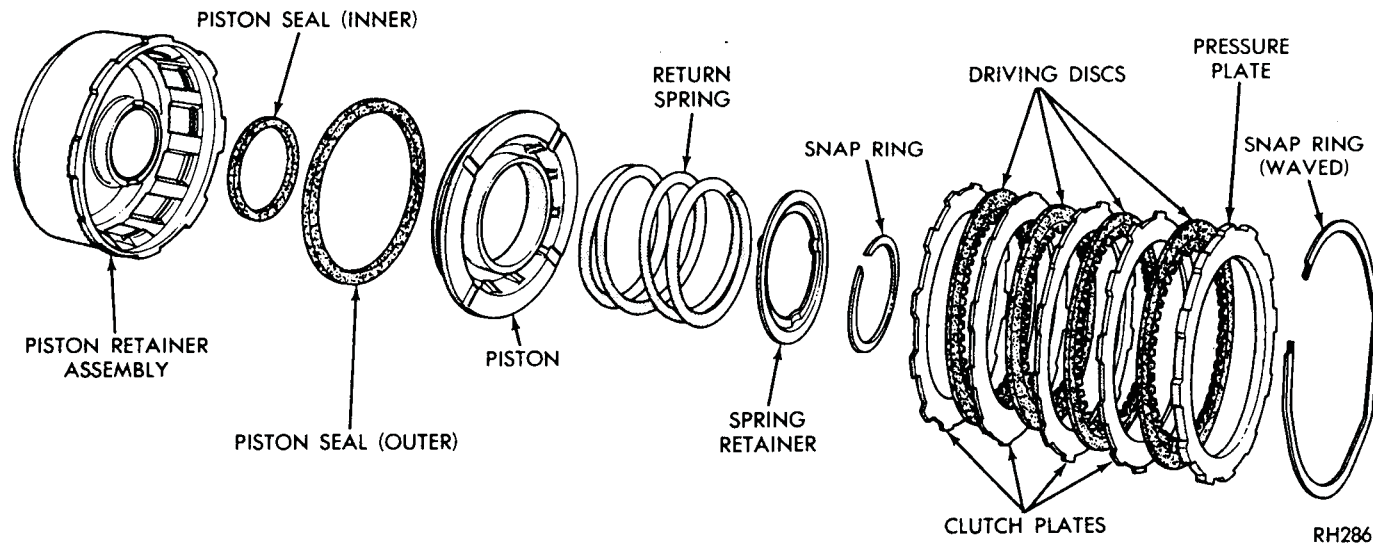
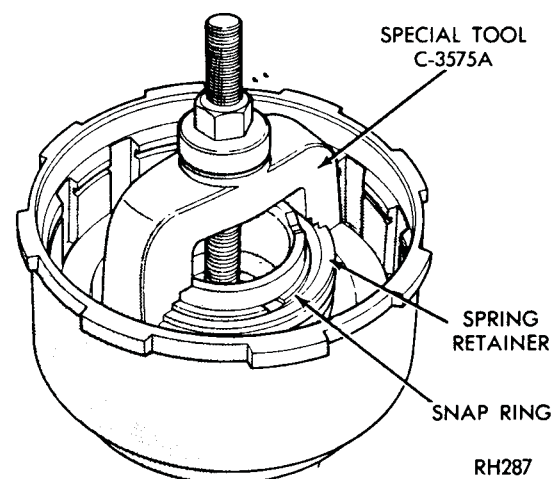

Fig. 18—Front Clutch (A-904T and A-999)
Fig. 19—Front Clutch Spring Retaining Snap Ring (A-904T and A-999)
Figure 18 shows a disassembled view of the front clutch assembly.
(1) Remove large waved snap ring that secures pressure plate in the clutch piston retainer. Lift pressure plate and clutch plates out of the retainer.
(2) Install compressor Tool C-3575A, over piston spring retainer (Fig. 19). Compress spring and remove snap ring, then slowly release tool until spring retainer is free of the hub. Remove tool, retainer, and spring.
(3) Invert clutch retainer assembly and bump it on a wooden block to remove the piston. Remove seals from the piston and clutch retainer hub.
(1) Lubricate and install inner seal on hub of clutch retainer. Make sure lip of seal faces down and seal is properly seated in the groove (Fig. 18).
(2) Install outer seal on the clutch piston, with lip of seal toward bottom of clutch retainer. Apply a coating of wax type lubricant or Door Ease to outer edge of seals and press seal to bottom of its groove around piston diameter for easier installation of piston assembly. Place piston assembly in retainer and carefully seat piston in bottom of retainer.
(3) Place spring on piston hub and position spring retainer and snap ring on the spring. Compress spring with Tool C-3575A (Fig. 19), and seat snap ring in hub groove. Remove compressor tool.
(4) Lubricate all clutch plates, install one steel plate followed by a lined plate (disc) until the number given in specifications is installed. Install pressure plate and snap ring. Make sure snap ring is properly seated.